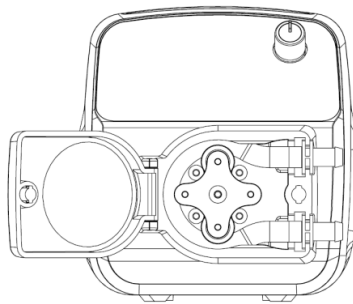

Figure 2
- 2) Open the pump head cover, and replace the tubing as shown in Figure 2.